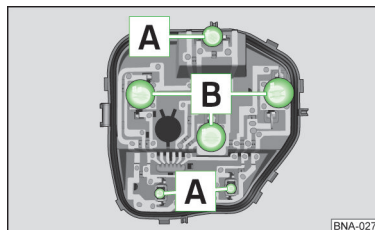

Fig. 116
- › Remove the faulty bulb **A** » fig. 116 from the holder.